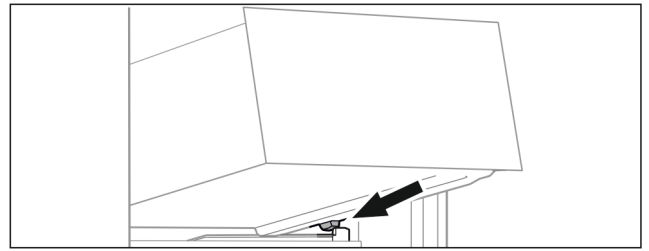

Fig. 121
- ▶ Place drawer at an angle behind the stoppers on the molded rib. (see Fig. 121)